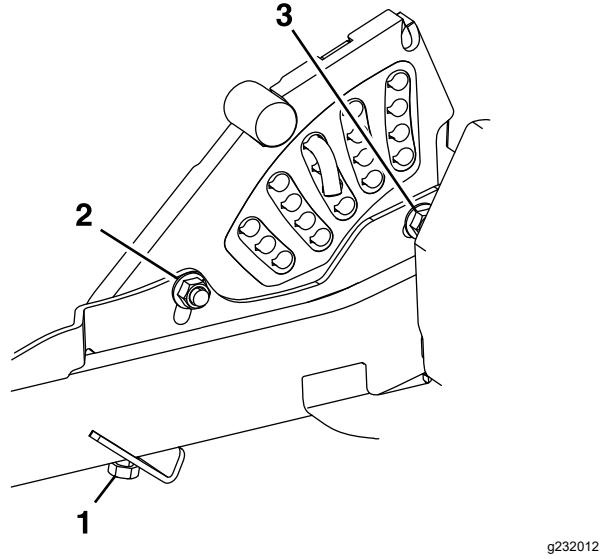

Figure 77
- If the deck is too low, tighten the single-point adjustment bolt by rotating it clockwise (Figure 77).